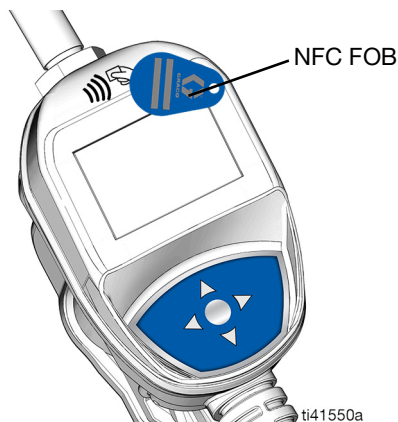

FIG. 56
2. Touch the NFC fob to the indicator at the top of the bezel, as shown in FIG. 56, to send the NFC Code to the Pulse Fluid Management Software for authorization.